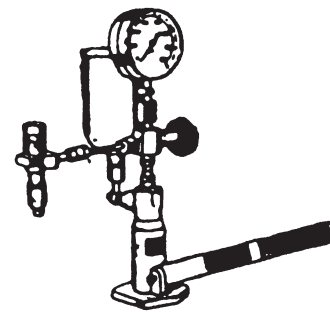

Fig.1-12
1.4.4 Nozzle adjustment (See Fig1-12,1-13)